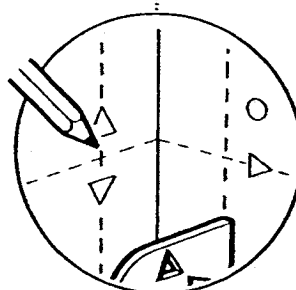

Fig. 38
10. Remove the template and draw a vertical line between the two marks. The intersection of the vertical and horizontal lines is the centre of the flue hole (Fig. 38).